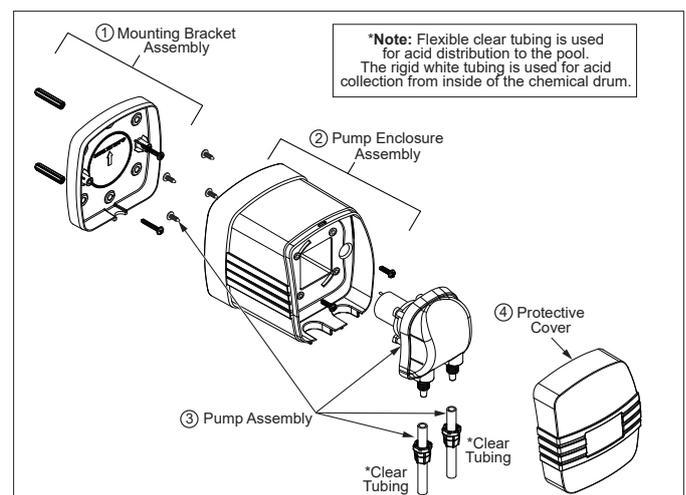

Figure 4. Halo Doser Installation
Unclip the tinted visor from the doser assembly by gently pulling it outwards at its base. Pull enough of the dosing pump cable out of the pump enclosure to reach the Halo Chlorinator and then push the pump enclosure onto the wall mounting bracket (the cable exits the doser assembly at the bottom – take care not to pinch it!). Secure the doser assembly to the mounting bracket using the two (2) mounting screws. See Figure 4.